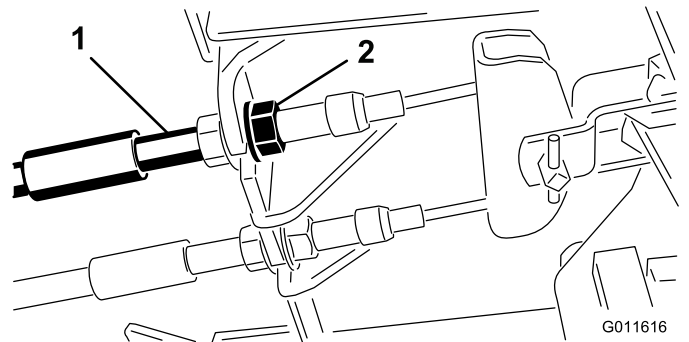

Figure 69
1. To reduce free travel of the brake pedals, tighten the brakes by loosening the front nut on the threaded end of the brake cable (Figure 69).